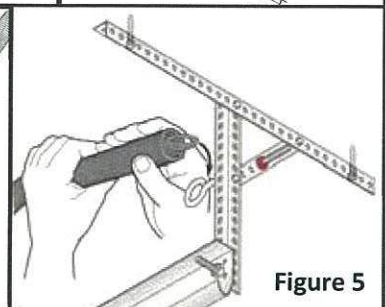

Figure 5
Step 5: Attach the other end of the Extension Spring(s) to the right side Eye bolt (Fig 5).